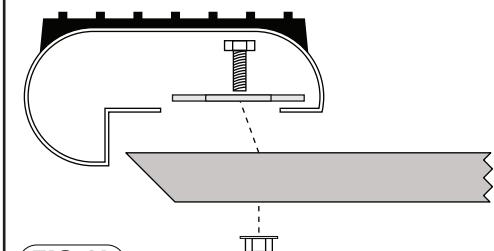

FIG 2b TOP VIEW
3) Rotate clamp brackets above main brackets, making sure that both edges of the running board are in-between the clamp bracket and the main bracket. Install 5/16" hex bolt through center hole of bracket clamp and oblong hole of main bracket placing 5/16" flange nut on bottom side (Fig 2b).